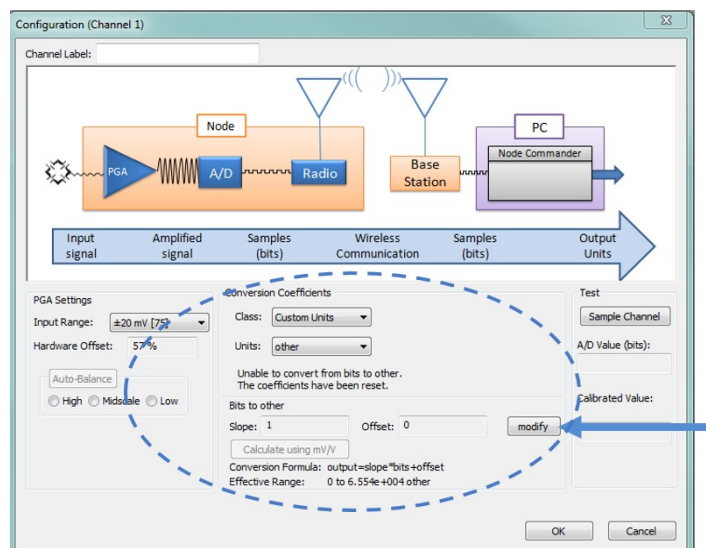

Figure 6 - Entering Conversion Values
- c. In the channel configuration screen set the conversion coefficients to Custom Units and Other, and then select the Modify button to enter the calculated slope and offset values (*Figure 6 - Entering Conversion Values*).